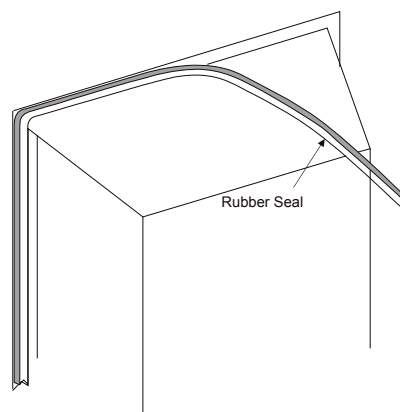

Figure 41
2. Apply the sealing strip around the rear edge of the firebox flange or Freedom Frame flange (depending on the model being installed) by peeling off the paper-backing strip little at a time. (See **Figure 41**).